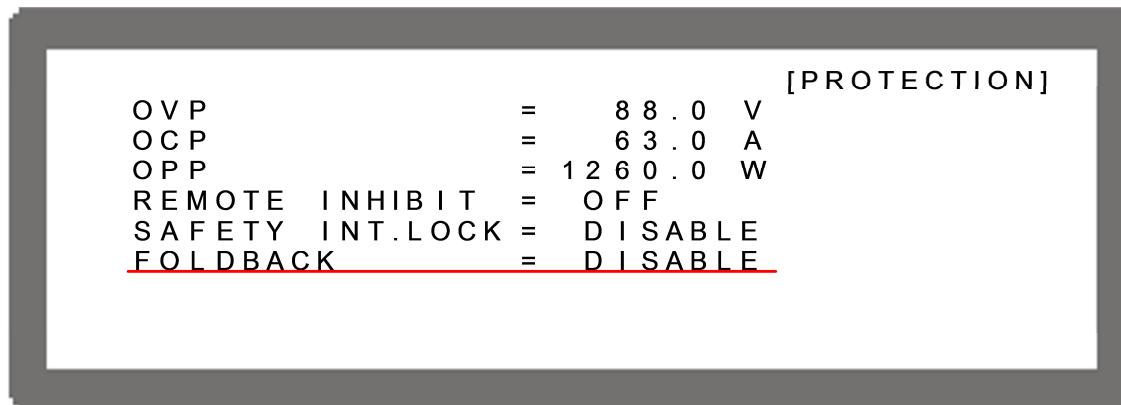

Figure 3-83
1. Use the “”, “” keys to move the cursor to the column to be set as shown in Figure 3-83.